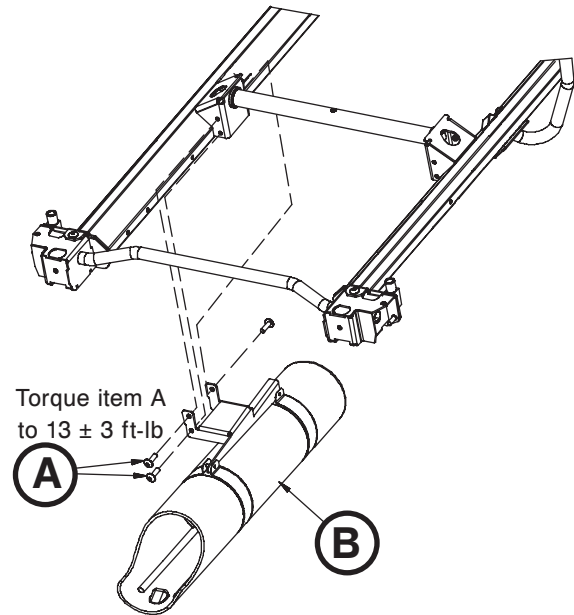

Figure 37
3. Using a 1/2" socket with a 3/8" and a 3/8" drive ratchet, remove the three hex washer head screws (A) that hold the oxygen bottle bracket (B) to the litter frame on the patient left side (Figure 37). Discard the hex washer head screws and bottle holder assembly.